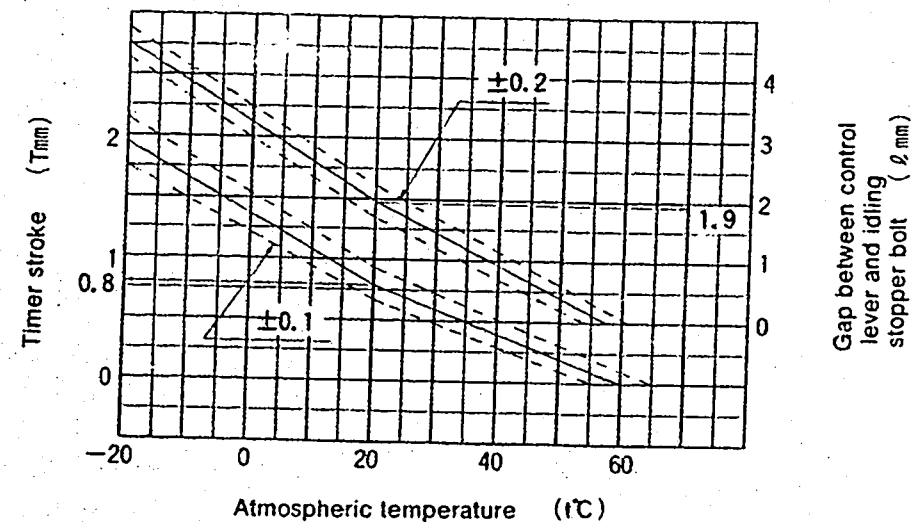

Fig. 2
1. Calculate the timer stroke from Fig. 2 according to the atmospheric temperature at the time of adjustment.
1. Calculate the block gauge dimension $l \pm 0.05$ mm from Fig. 2 according to the atmospheric temperature at the time of adjustment.
Formula for calculating Fig. 2